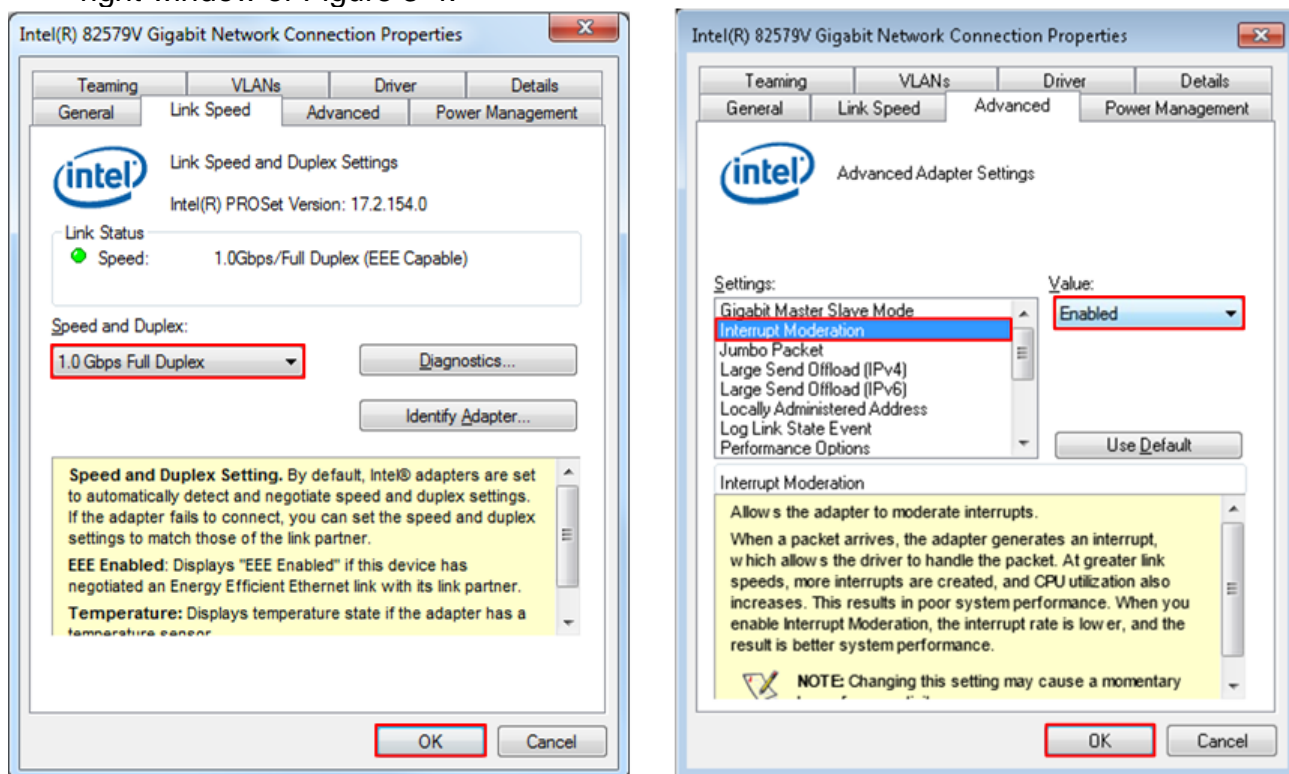

Figure 3-4 Link speed and Jumbo frame setup
- On Link Speed tab, select “1.0 Gbps Full Duplex” for running Gigabit transfer test, as shown in the left window of Figure 3-4.
- On Advance tab, Settings=Interrupt Moderation and Value= “Enabled”, as shown in the right window of Figure 3-4.